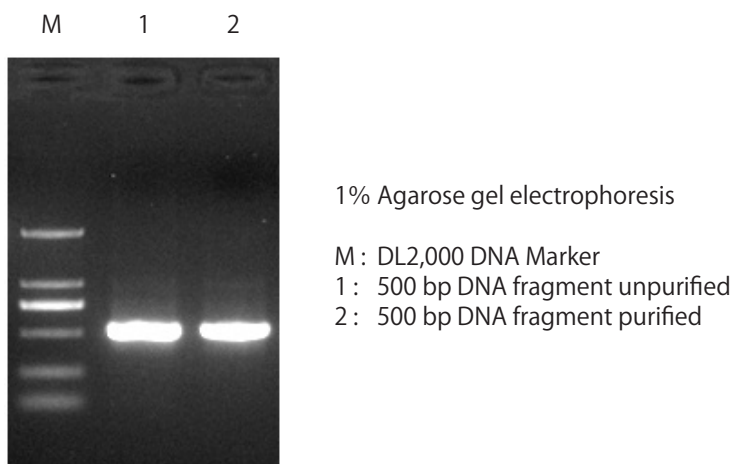

Fig. 1 Agarose gel electrophoresis of DNA fragment
1. Amplify 500 bp DNA fragment by PCR and purify the DNA fragment by this kit. The result of agarose gel electrophoresis shows in Fig. 1. The recovery of DNA fragment is up to 90%.